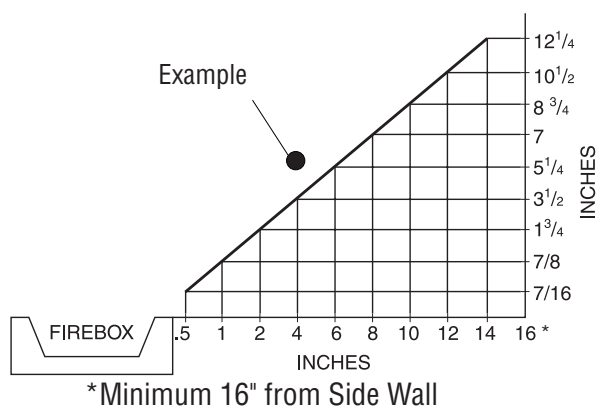

Figure 2 - Minimum Clearance for Combustible to Wall
Minimum Wall and Ceiling Clearances (see Figure 2)
A. Clearances from the side of the fireplace cabinet to any combustible material and wall should follow diagram in Figure 2.
Example: The face of a mantel, bookshelf, etc. is made of combustible material and protrudes 3 1/2" from the wall. This combustible material must be 4" (102 mm) from the side of the fireplace cabinet (see Figure 2).